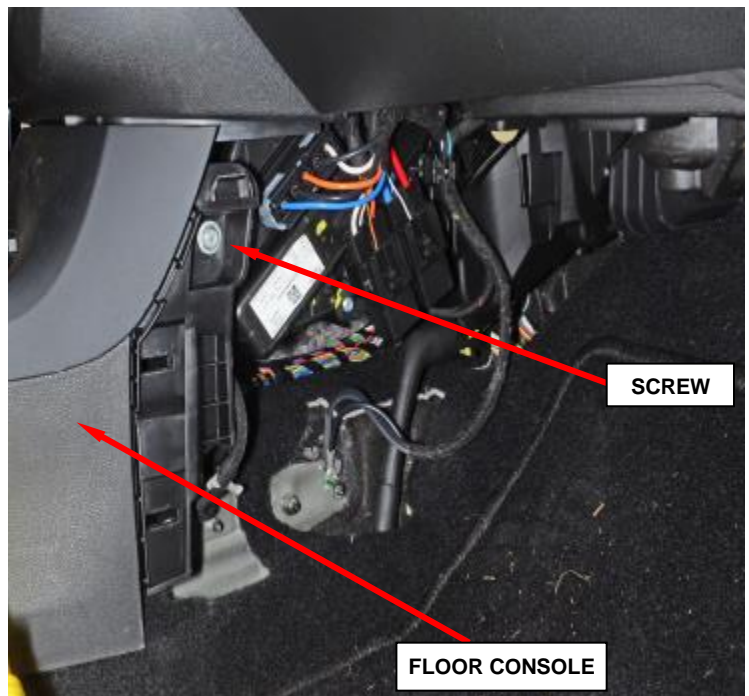

Figure 6 – Right Side Floor Console
- o. Remove and save the screw from the front of the floor console (Figure 6).